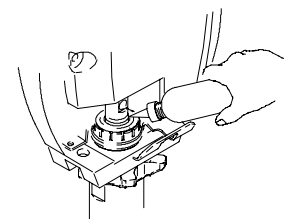

Fig. 14
- Fig. 14. Fill packing nut with Graco TSL until fluid flows onto the top of seal.